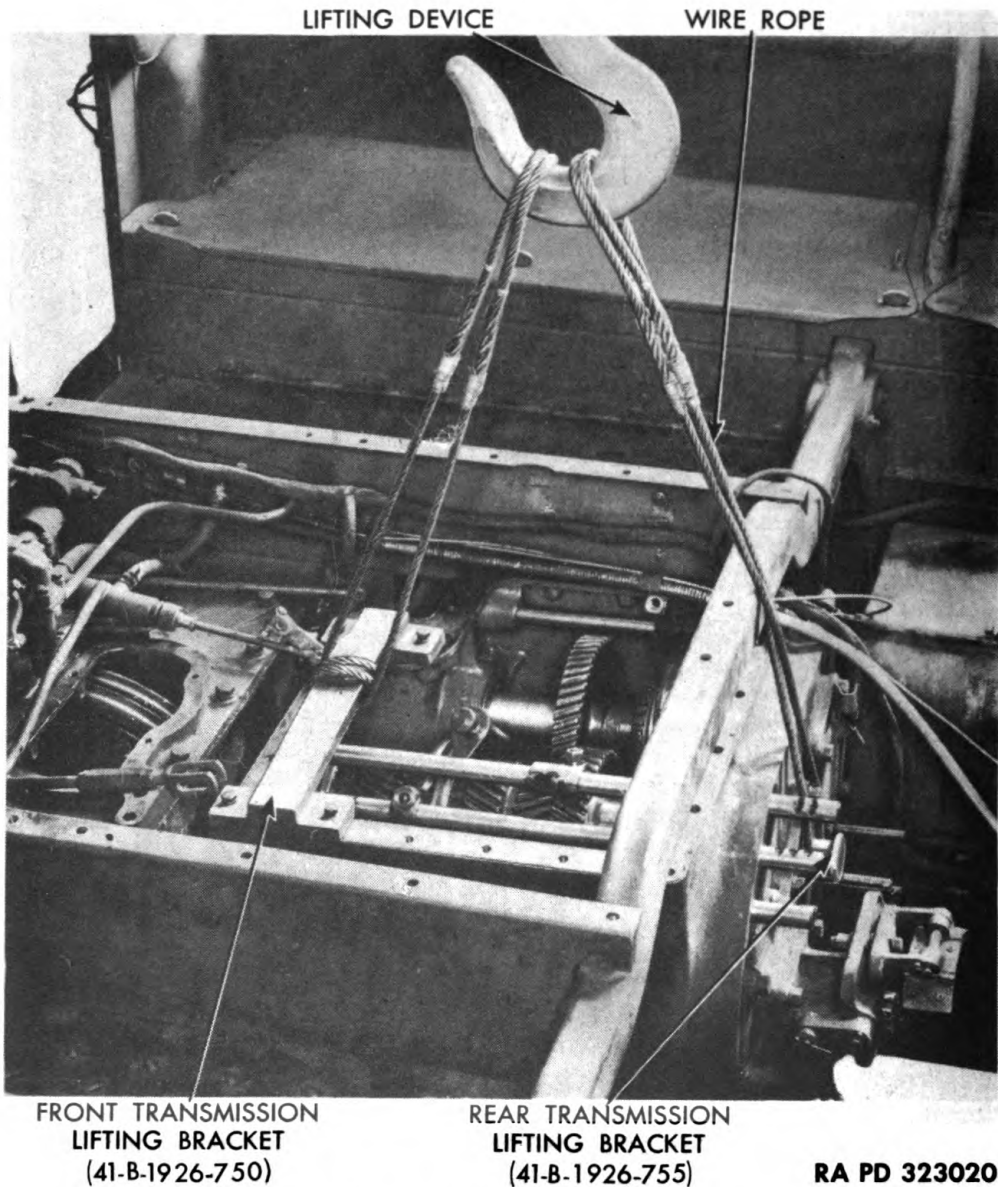

Figure 19 — Removing Transmission with Lifting Brackets
q. Remove Transmission Assembly. Remove four cap screws and lock washers attaching transmission countershaft rear bearing retainer to transmission case, and remove retainer (fig. 12). Install rear transmission lifting bracket (41-B-1926-755) in place of rear bearing retainer, and attach with four cap screws and lock washers (fig. 19). Install front lifting bracket (41-B-1926-750) to top rear of transmission with four cap screws and lock washers. Attach wire rope around both lifting brackets, and attach a hoist hook so that transmission will balance when lifted. Raise hoist hook until wire ropes are taut. Remove retaining nut, and disconnect speedometer cable from adapter on left side of transmission. Remove cotter pin and pin in winch drive shaft coupling, and slide coupling forward on drive shaft. Remove 7 cap screws, 3 nuts, and 10 lock washers attaching transmission case to differential housing. Suspend transmission with hoist, and move it toward rear of vehicle so that it clears between frame crossmember and fender support crossmember. When front wire rope reaches fender support crossmember, block up rear of transmission on frame, and set front edge of transmission on frame